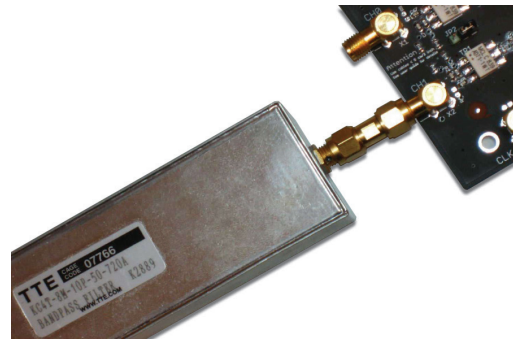

Figure 1: Recommended Connection of Filter
- **Make sure that the bandpass filter is mounted as close to the input connectors as possible.** Using the connection in Figure 1 has proven to yield the best results over a wide range of sampling rates and input signal frequencies. However, when configuring the evaluation board to use the amplifier input option to drive the ADC, the cable length is not critical, and consistent performance is much easier obtainable.